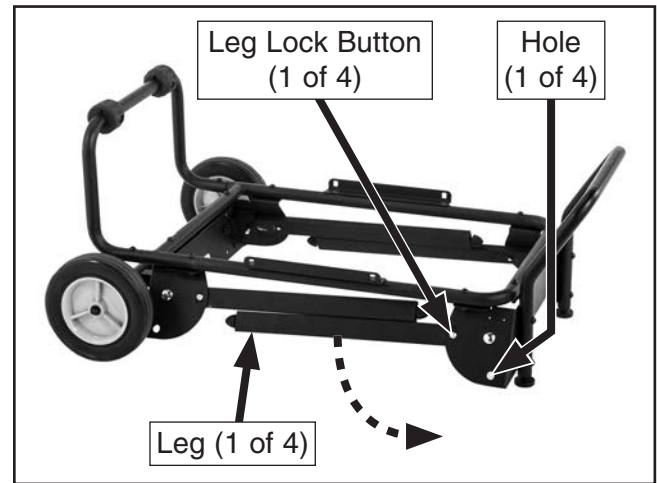

Figure 19. Location of stand legs, leg lock buttons, and leg lock holes.
1. Push leg lock buttons in and unfold legs until lock buttons click into place in holes shown in **Figure 19**.